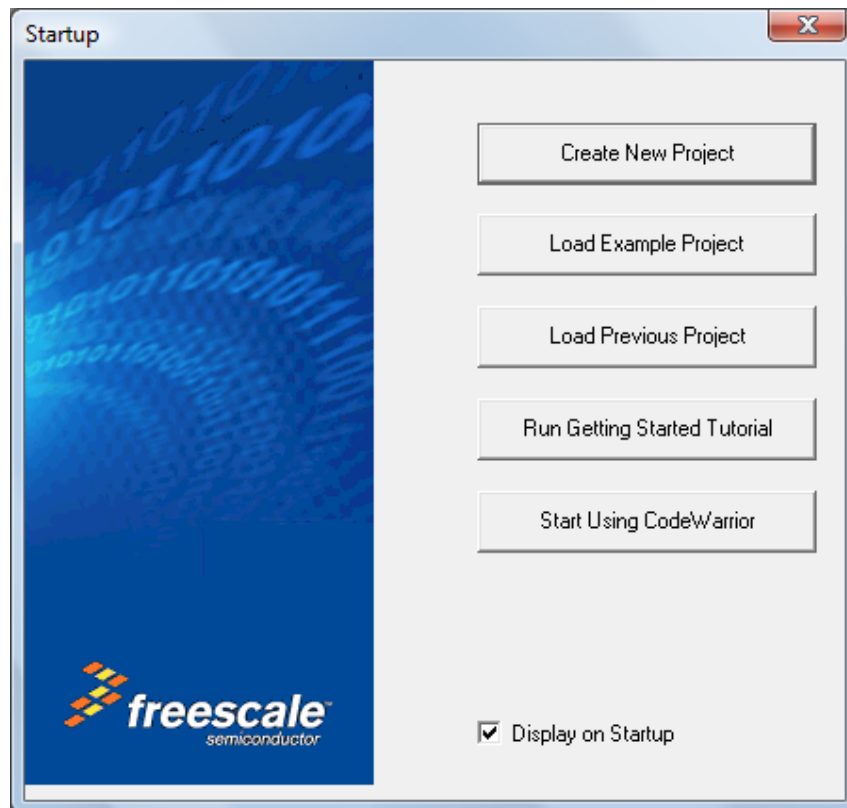

Figure 28: CodeWarrior startup dialog
1) When CodeWarrior is launched you should see the following dialog (Figure 28) which includes the option to create a new project. Alternatively you can use the `New Project...` option in CodeWarrior's File menu.